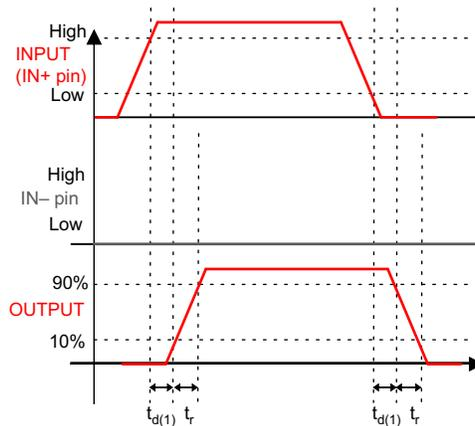
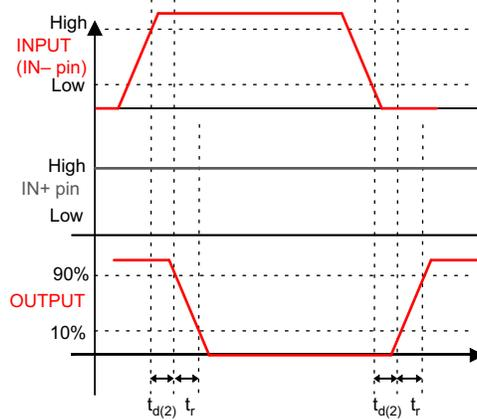

图 5-1. Non-Inverting Configuration (PWM Input to IN+ pin (IN - Pin Tied to GND), Output Represents OUTH and OUTL Pins Tied Together in the UCC27511A)
图 5-2. Inverting Configuration (PWM Input to IN - Pin (IN+ Pin Tied to V_{DD}), Output Represents OUTH and OUTL Pins Tied Together in the UCC27511A)
$V_{DD} = 12\text{ V}$, $T_A = T_J = -40^\circ\text{C}$ to 140°C , $1\text{-}\mu\text{F}$ capacitor from V_{DD} to GND. Currents are positive into, negative out of the specified terminal. See 图 5-1, 图 5-2, 图 5-3, and 图 5-4
(1) See timing diagrams in 图 5-1, 图 5-2, 图 5-3, and 图 5-4.